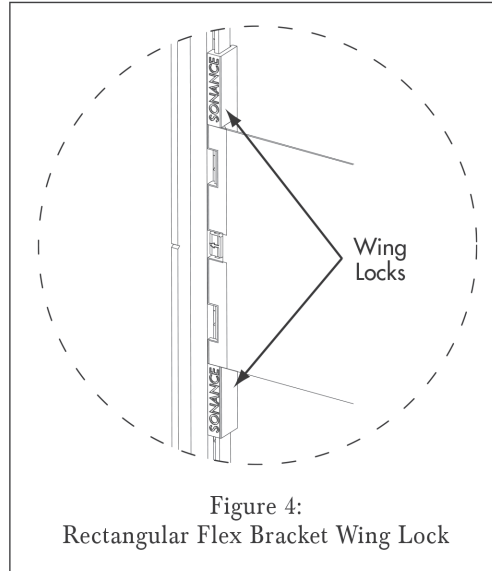

Figure 4:
3. Once the wings are in the desired positions on the frame, you can hold them in position by placing wing locks on either side of it. The locks snap into place in the channel on either side of the wing (see *Figure 4*). This will prevent the Flex Bracket frame from moving out of position after the Flex Bracket wings are fastened to the wall studs or ceiling joists in the mounting location.